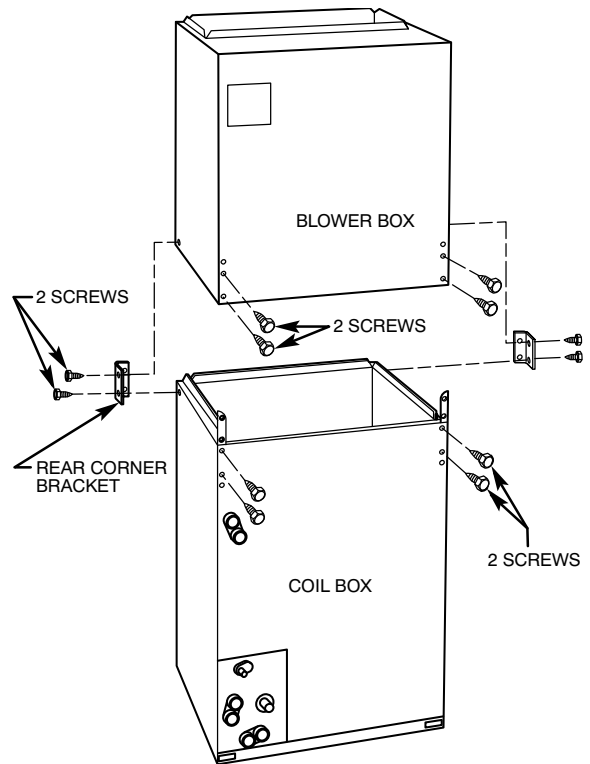

Fig. 6 – Removal of Brackets on Modular Unit
To disassemble unit, remove rear corner brackets by removing 2 screws which secure brackets. Remove either 2 screws in each front corner of coil box, or 2 screws in blower box (Fig. 6). Do not remove all 4 screws in each corner. Sections may now be separated by lifting top section from lower section.
- b. Remove air splitter (B) from coil seal assembly by removing 3 screws (Fig. 6 inset).
- c. Remove filler plate (A) and install air splitter (B) in place of filler plate.
- d. Install filler plate (A) as shown in horizontal right application.
- e. Remove condensate troughs (C) and install on opposite tube sheets.